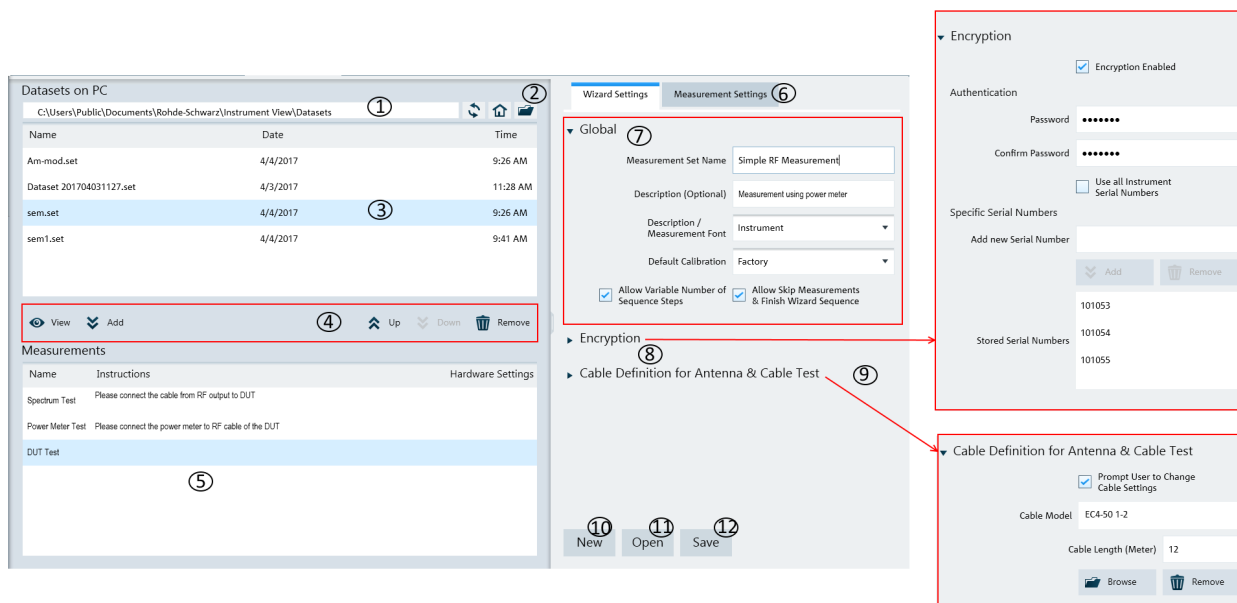

Figure 4-33: Wizard editor
The measurement table list forms the measurement sequence in the wizard set. See item 5 in Figure 4-33
The "Wizard " editor allows you to open, edit and save the measurement wizard set. See Figure 4-33.
To arrange the measurement sequence in the wizard set, double clicked or "Add" the desired dataset from the PC folder directory to the measurement table list. See index 4 and 5 of Figure 4-33.
Navigates from the list of datasets in the measurement table list (see index 5 of Figure 4-33) and select the desired dataset for configuration.